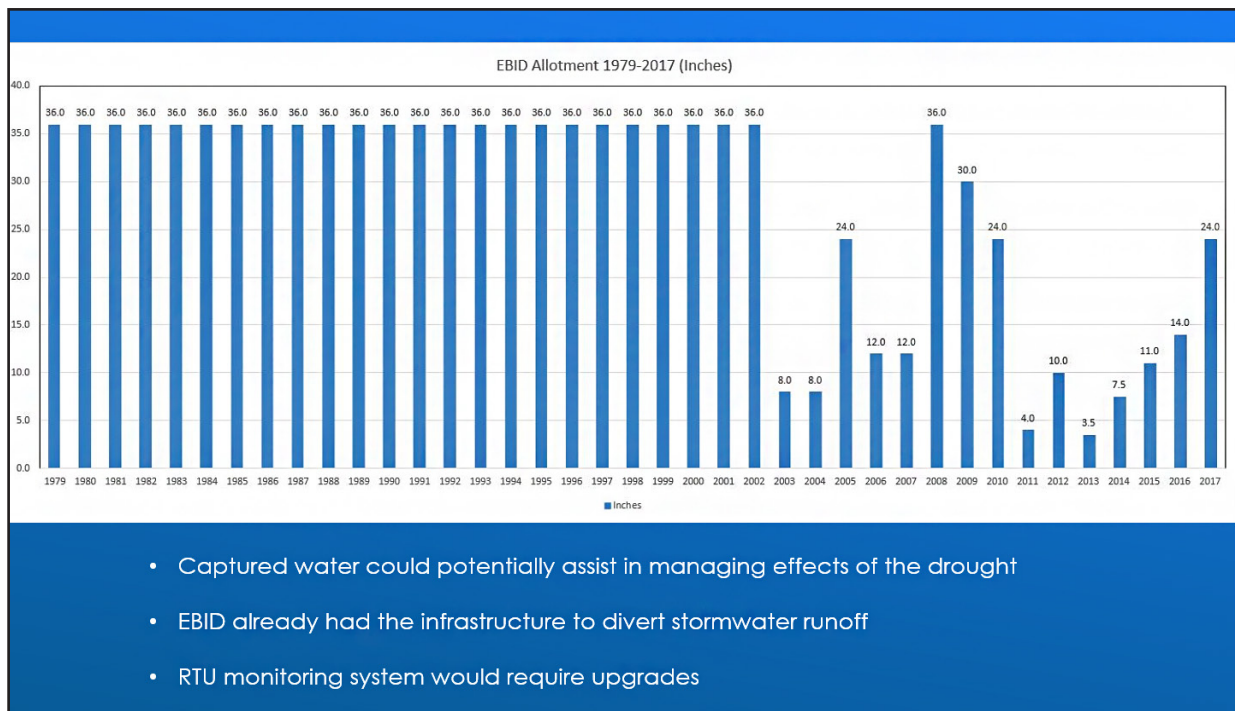
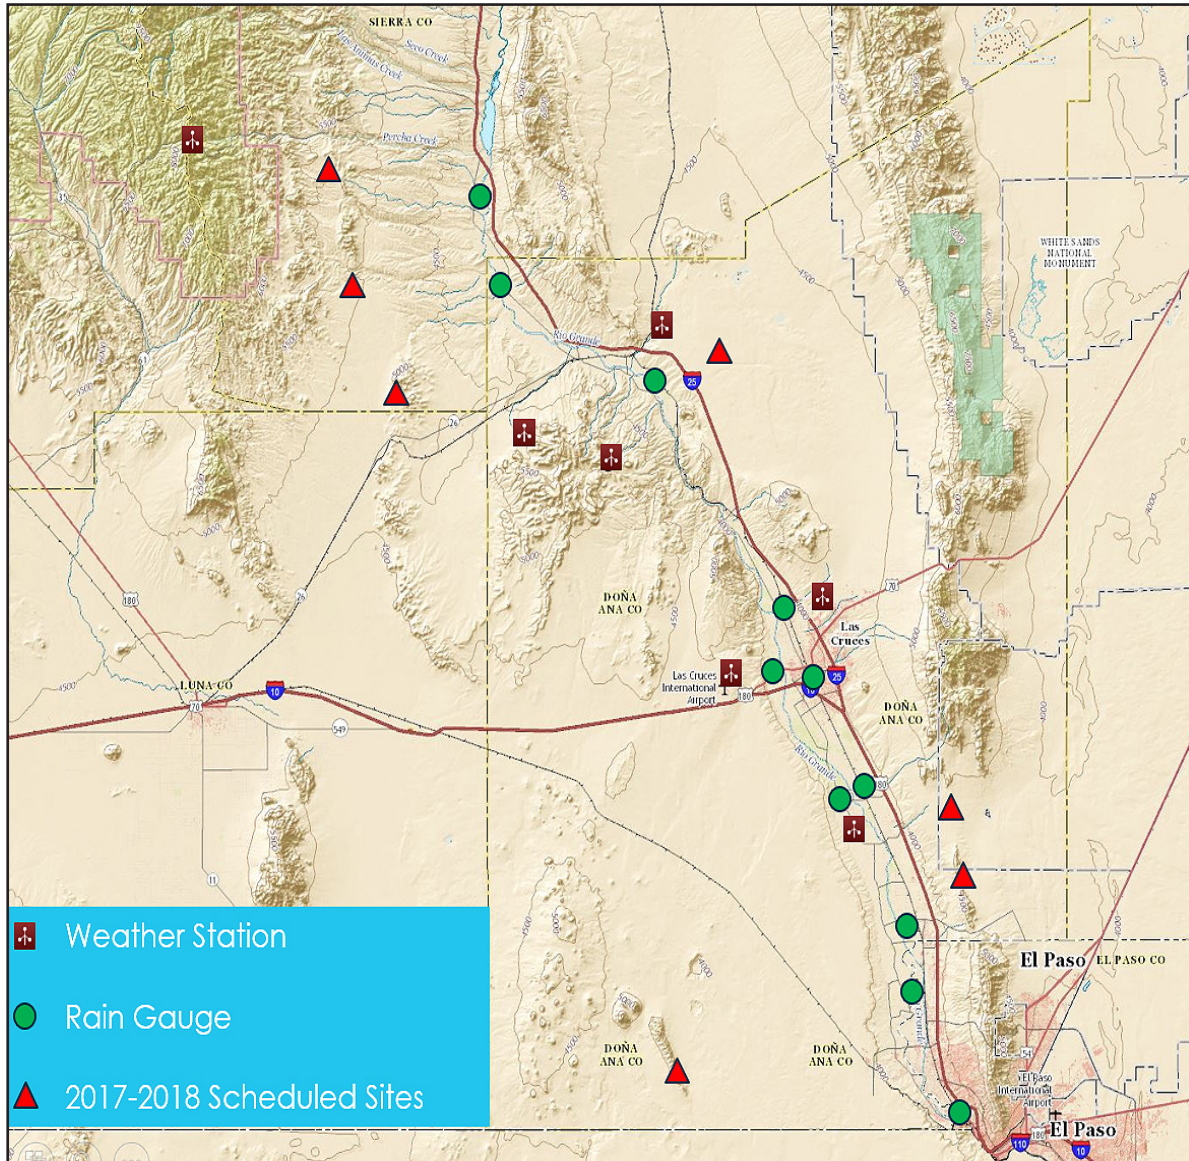

Figure 1. EBID surface water allotment.
Figure 2. Upgrades to RTU system.
Good afternoon, everybody. I'm here to talk to you about our stormwater capture program that came about because of a shortage in our surface water allotment. The Elephant Butte Irrigation District (EBID) surface water allotment from 1979 to 2002 (Figure 1) was 3 acre-feet or 36 inches. In 2003, we saw a dramatic dip due to the drought. Those first few years that we had drought, we were just trying to adjust to new methods of delivering water. Stormwater capture, although we had dabbled in it a little bit, wasn't the primary focus of what we were doing in the remote telemetry (RT) monitoring side of things. In 2008, we had a bounce back to full allotment. We thought the drought might be over at that point. We were hopeful for that, and then we were hit with 2011, where we had a four-inch allotment. Those were critical years. Obviously, when there is a shortage in surface water, our farmers have to kick on their irrigation pumps to supplement that water. We started looking at what's out there that we could do to help offset that pumping.
One of the big things to go along with that, though, is that our monitoring system wasn't quite built for that. Around 2011, we started adding weather stations to the watersheds of some of the larger arroyos in the district (see Figure 2). We also undertook updating our manual rain gauges that were useless for storm tracking. We added digital tipping buckets, and I put them on our RT system so that we could get early-warning alerts as storms moved through the system. As Figure 1 shows, we have seven more sites planned for this year for rain gauges, and we also plan to install a weather station but haven't determined where to place it yet.
Adequate alerts are a big part of this system. We know that when water enters the system in the north regions of the map in Figure 1—up around the Hatch-Rincon Valley—and the rain gauges alert us, our personnel can get out to those areas, they can check the flood control dams, and they can look at what is coming into the river channel. We have about twelve hours before the water hits the in-between point for the Rincon Valley and the Mesilla Valley, which is up in Leasburg, New Mexico. When it hits our river gauging station there between those two areas, we know that we have four to five hours before it hits Leasburg. It allows us to put the personnel in the areas they need to be and to do the diversion.